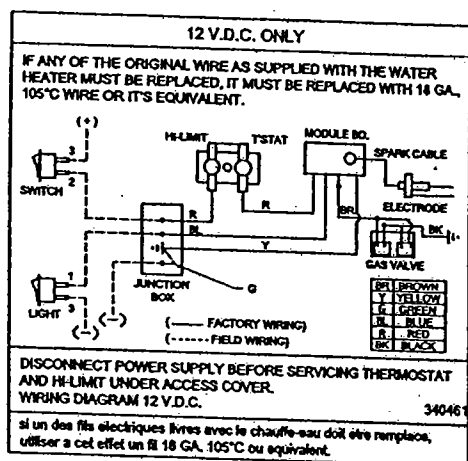

Figure 8
- D. Make the 12 Volt D.C. electrical connections following the wiring diagram illustrated in Figure 8.